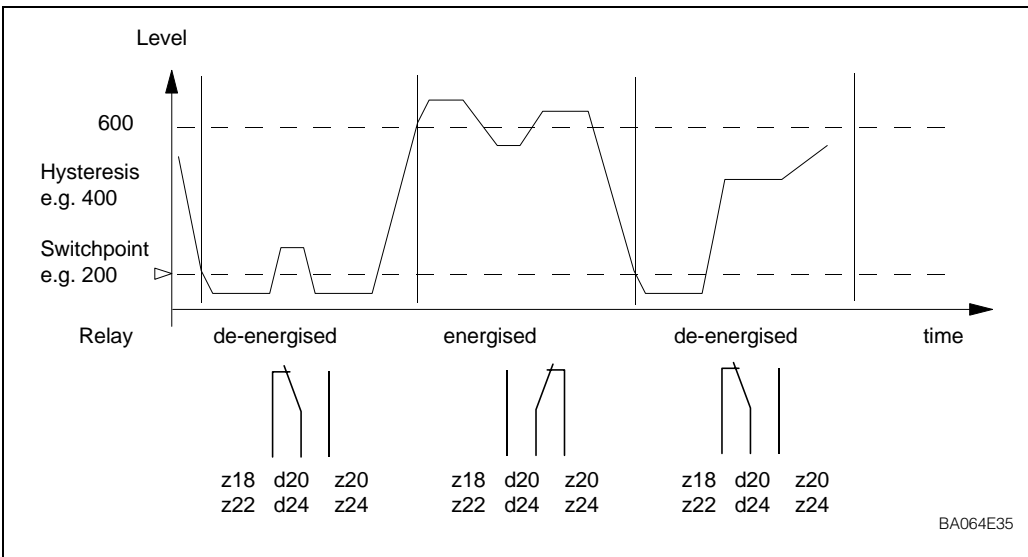

Fig. 7.1:
The hysteresis parameter controls the re-energising of the relay after it has tripped, see Fig.7.1 and 7.2. It is expressed as a level or volume and is entered at V1H2 for relay 1 or V5H2 for relay 2:
- as a two-point control with one relay (Fig. 7.1, 7.2)